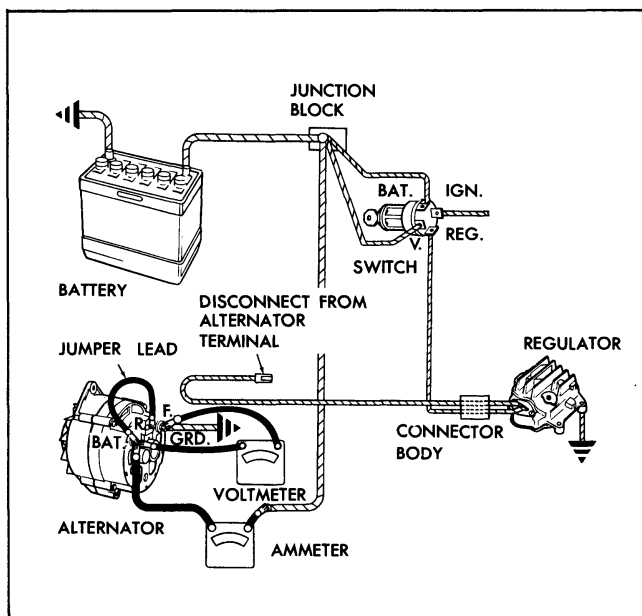

Fig. 11-40 Checking Circuit
1. Connect an ammeter in the circuit at the alternator "BAT" terminal (Fig. 11-40).